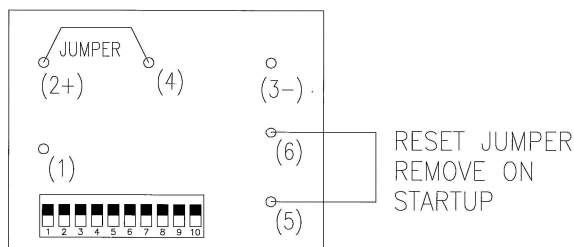

Figure 23: Time accumulator module
1. Open the cover of the control station and locate the time accumulator module. See Figure 23.